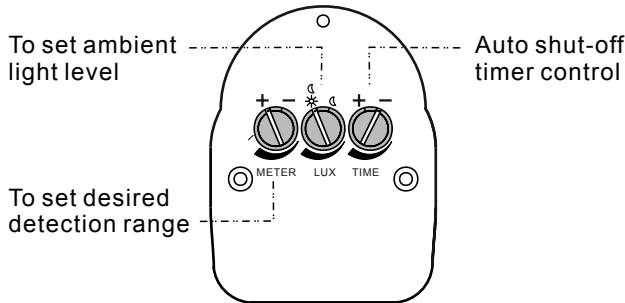

FIG.11
METER - TIME - LUX knob (See FIG.11).
6. Adjust METER knob gently to the distance to be detected. Setting knob to "-", sensor detects the smallest "Field of View". Setting knob to "+", sensor detects the largest "Field of View" (See FIG.11).
7. Adjust TIME knob gently. The min setting at "-" is about 6sec, the max setting at "+" is about 12min (See FIG.11).
8. Adjust LUX knob gently to the value to be lighted on. The preset value is at "☀" before ex-factory. "☀" stands for full daylight level, and "☾" stands for the dusk light level (See FIG.11).